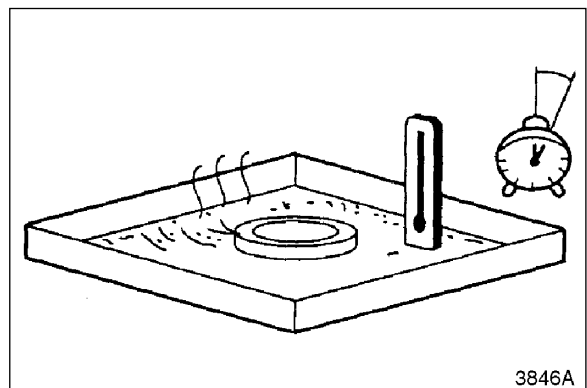

Figure 27
13. Use warm water to expand slipper seal. See Figure 27. This will make seal easier to install. Set slipper seal in 60 -100 degree C (140 - 212 degree F) water for 5 minutes or longer.